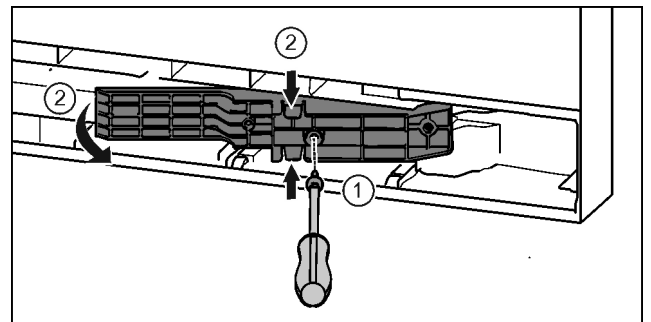

Fig. 20 *
- ▶ Loosen the screws with the T15 screwdriver. Fig. 20 (1)*
- ▶ Pull out the adapter. Fig. 20 (2)*